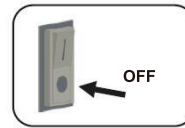

Fig:6
1) Switch-off power to the luminaire(Fig.6).